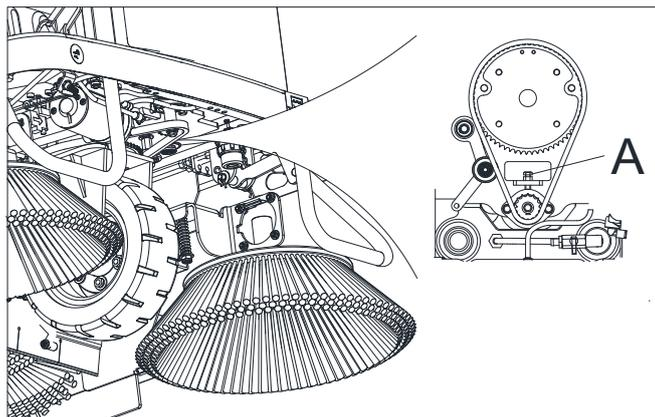

Figure 36
4. If the front wheel chain is loose, adjust the chain adjustment screw (A, Figure 36) from the front underside of the machine to ensure the chain has the appropriate tension.